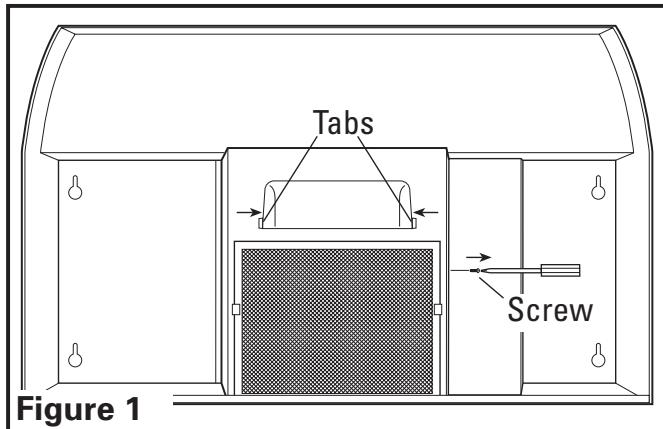

Figure 1
3. Remove wire compartment cover screw and then lamp cover by squeezing the sides inward, removing it from the tabs located on the hood (**Figure 1**).